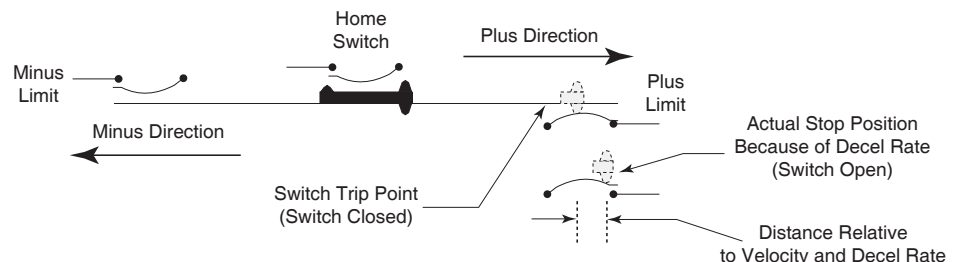

Figure 5.2 Limit modes of operation
Modes	1 Normal Limit function with a decel ramp. The I/O must be set for Limits (S1-S4, S9-S12 Command). If the limit switch in the direction of travel is reached, the motion will decel to a stop. That is, the plus limit works only in the plus direction of travel and the minus limit works only in the minus direction of travel. In Figure 5.2, the Limit is activated at a given position but because of the deceleration rate the motion continues for the duration of the deceleration time. This position may be beyond the trip point of the limit and a subsequent move in the same direction will not stop. A crash may be imminent. If the limit is activated and maintained the software will allow motion only in the opposite direction. If Homing (HM) is active and a limit is reached, the motion will decel to a stop and then reverse direction and seek the Homing Switch. If the Homing Switch is not activated on the reverse and the opposite limit is reached all motion will stop with a decel ramp. (See HM) 2 A Limit stops all motion with a deceleration ramp including Homing. 3 A Limit will stop all motion with a deceleration ramp and stop program execution. 4 Functions as LM=1 but with no deceleration ramp 5 Functions as LM=2 but with no deceleration ramp. 6 Functions as LM=3 but with no deceleration ramp.